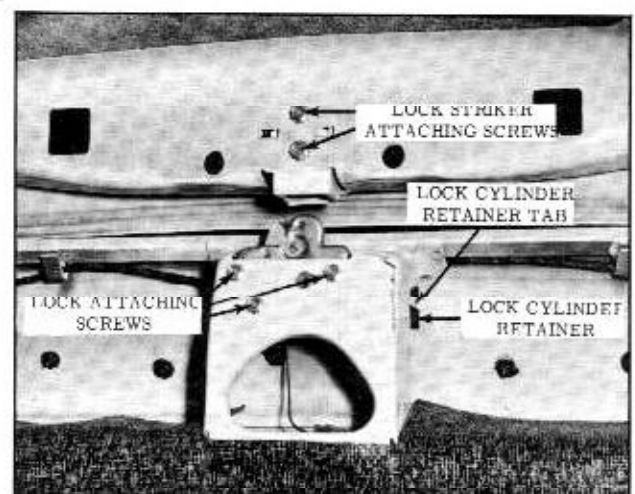

Fig. 15-47 Rear Compartment Lid Lock & Striker
1. Carefully bend lock cylinder retainer tab, (Fig. 15-47) forward to allow disengagement of retainer.
2. Using a suitable hooked tool, pull lock cylinder retainer, (Fig. 15-47) until retainer disengages from lock cylinder.
2. Remove 3 rear compartment lock attaching screws. (Fig. 15-47) and remove lock.
1. Mark location of striker on compartment lid panel, then, remove striker attaching bolts and remove striker and retaining plate. (Fig. 15-47)